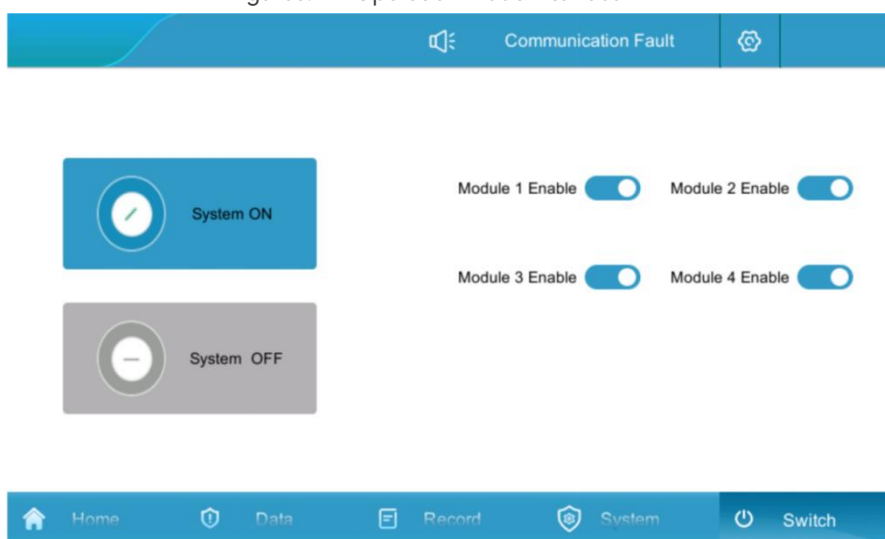

Figure5.2-2 Power on/off interface
6. Inverter shutdown: When the inverter is running, click "Inverter shutdown", as shown in Figure 5.2-2;